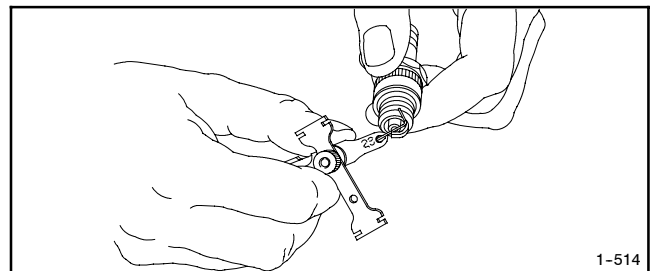
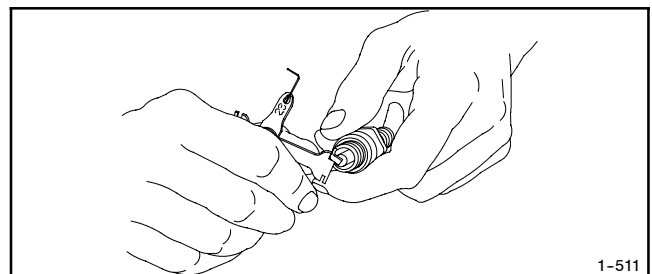

Figure 2-4 Checking the Spark Plug Gap
Figure 2-5 Adjusting the Spark Plug Gap
3. Check the spark plug gap using a wire feeler gauge. Adjust the gap to 0.76 mm (0.030 in.) by carefully bending the ground electrode. See Figure 2-4 and Figure 2-5.